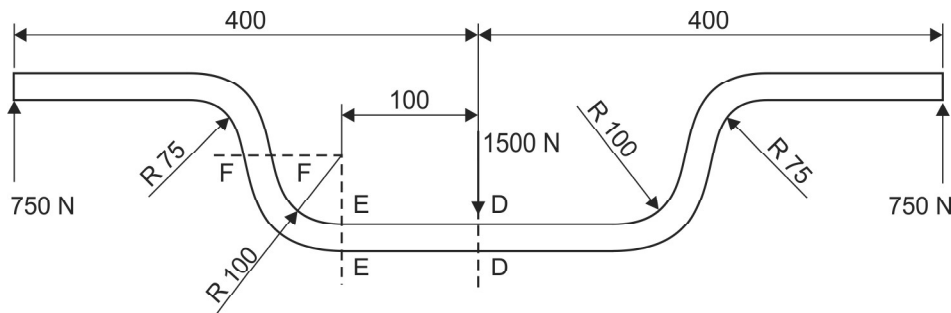

Fig. 1.18(a): Problem 14
14. A trough 25 mm thick and 200 mm long is as shown in Fig. 1.18(a). Determine the magnitude and location of maximum tension, maximum compression and maximum shear stresses.